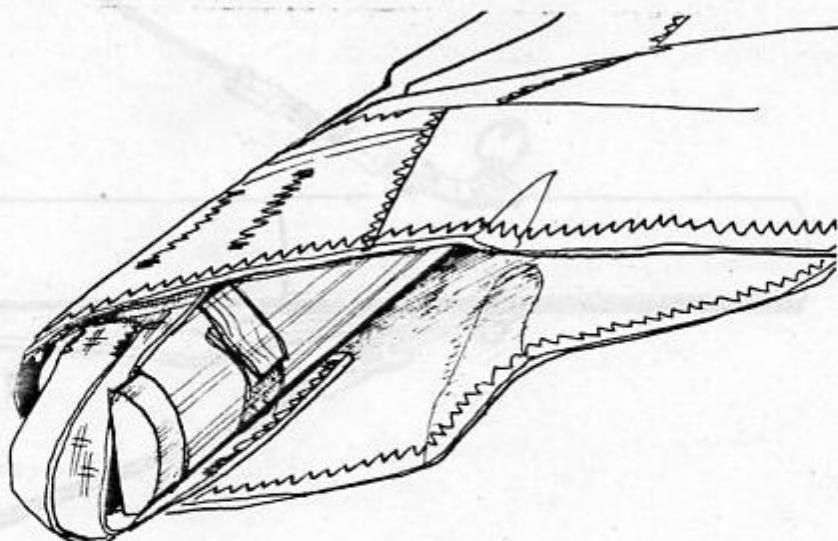

Fig. 3.1.38.
21. Check that the sail mount webbing is seated squarely and securely in the slot in the endcap (Fig. 3.1.38).